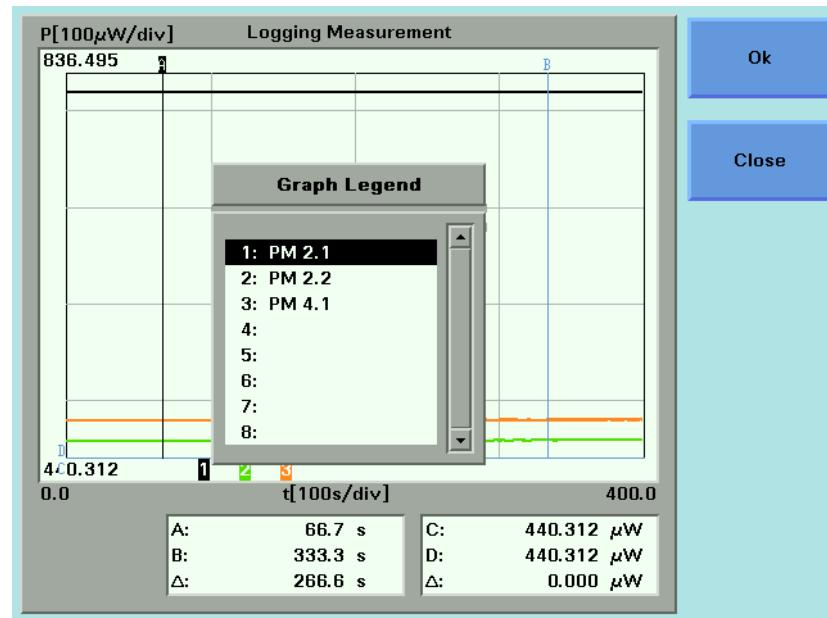

Figure 138 The Graph Legend Screen
- 1 Press the [Menu] softkey and move to <Legend>. A list of the Power Meter channels appears that is similar to Figure 138 , where all the Power Meters are listed numerically with regard to legend number. All legend texts, if you have not previously edited the legend text, are of the "PM x.y", where x represents the slot number and y represents the channel number.